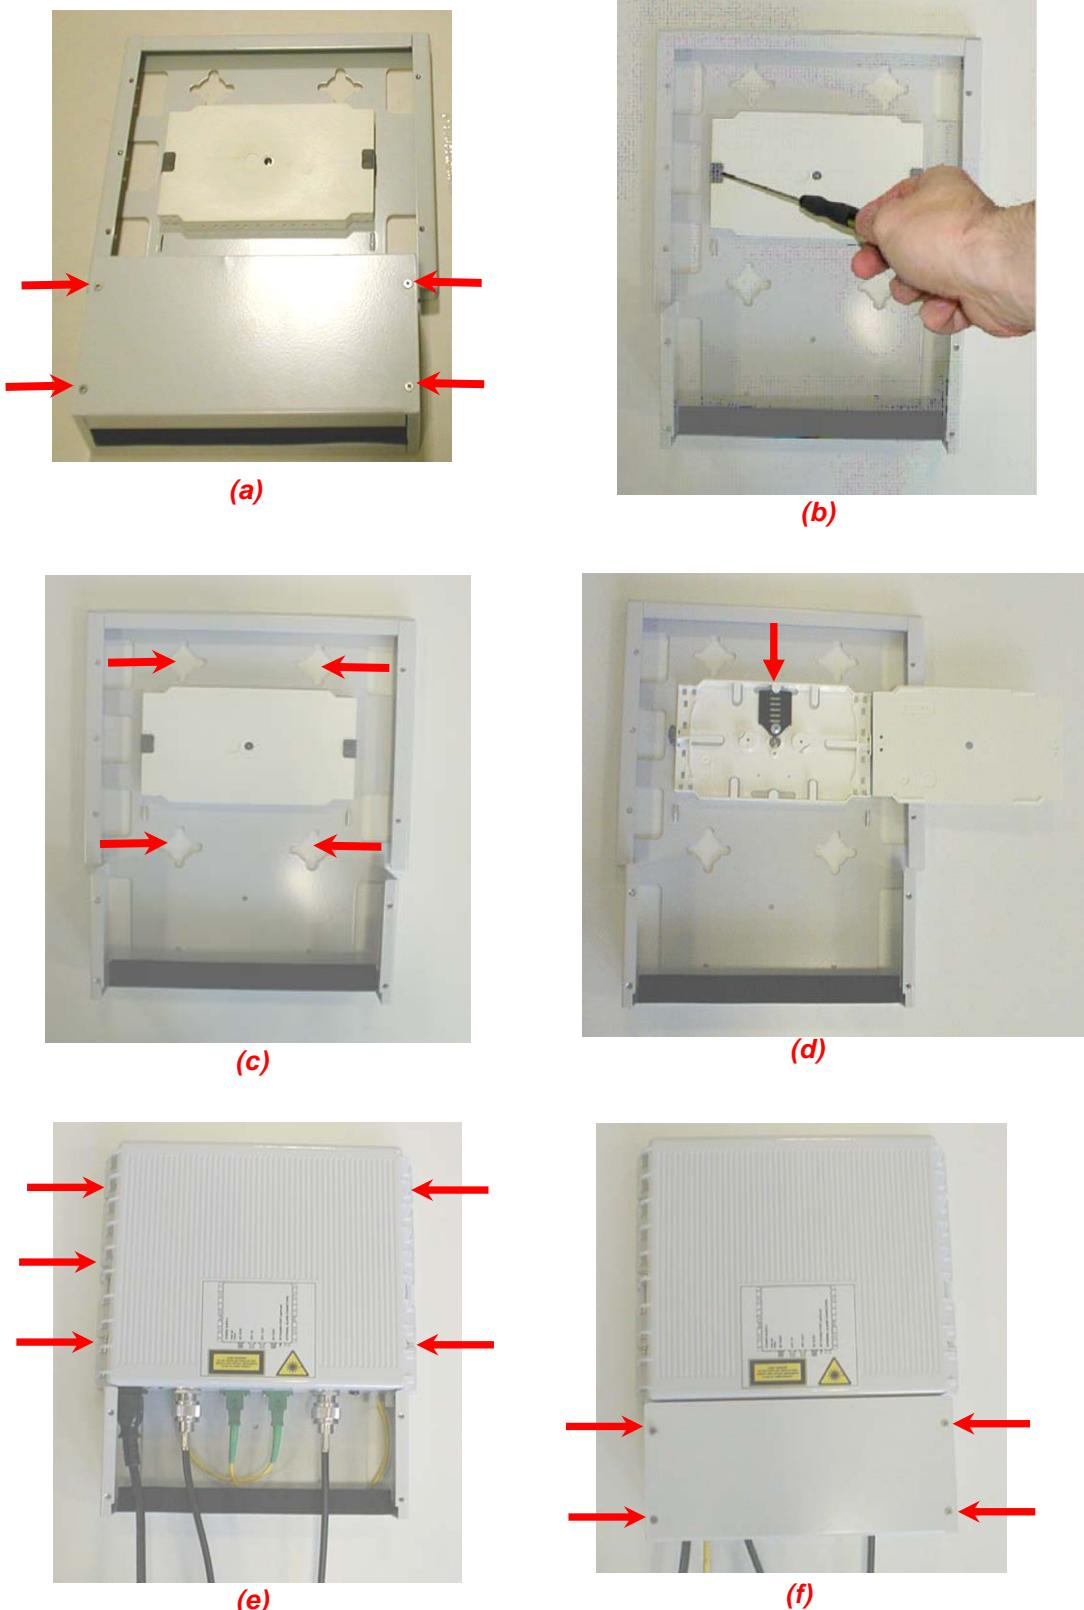

Fig. 3.13: Mounting the TFAx Case A with a TKA01 installation kit
- o Each piece of equipment should not be affected by the heating of any other piece. The remote unit and its external power supply should be mounted so as to avoid reciprocal heating. Side-by-side configuration is suggested (fig. 3.13 a,b)